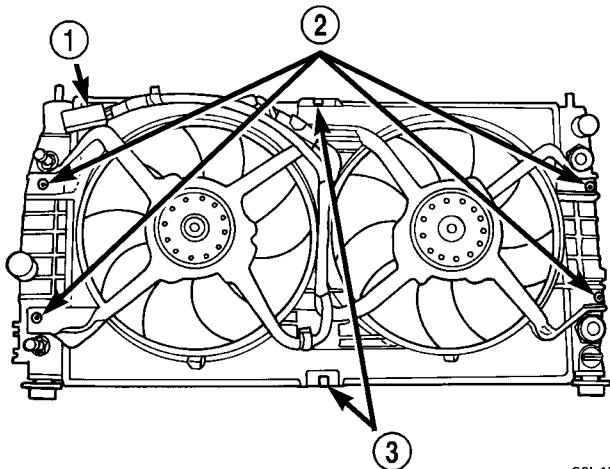

Fig. 16 RADIATOR FAN
(7) Disconnect the radiator fan electrical connector (Fig. 16).
(8) Remove radiator fan (Fig. 16).